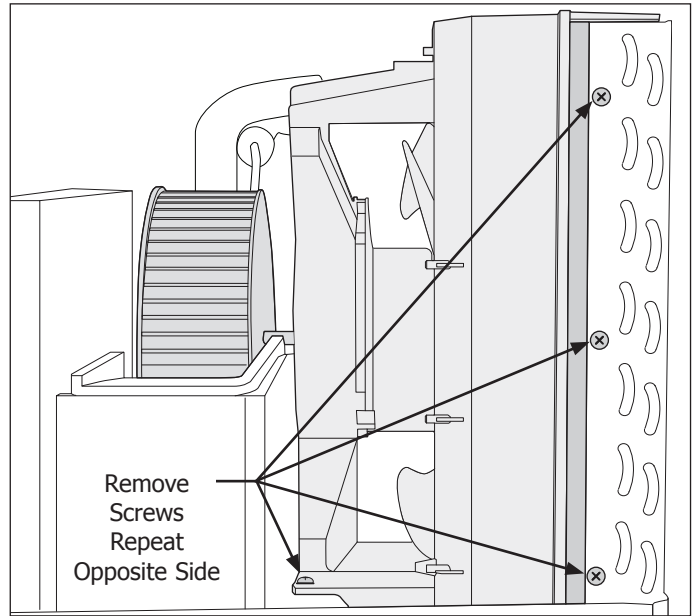

Figure 4-118.
6. Extract the 3 screws from each side of condenser. (See Figure 4-118)
7. Extract the two screws securing the bottom of the fan and blower assembly to the unit base. (See Figure 4-118)